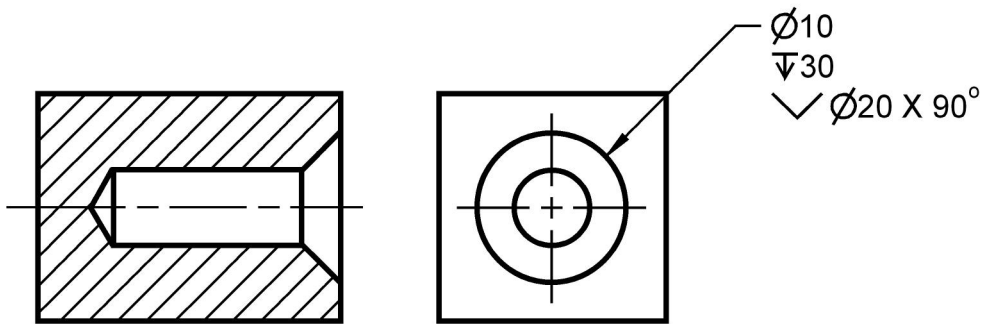

Figure 2-17: Countersunk holes.
- i) Countersunk holes are specified by giving the diameter (ϕ) of the drill (and depth if appropriate), the diameter (ϕ) of the countersink (\sphericalangle), and the angle of the countersink in a note as shown in Figure 2-17.